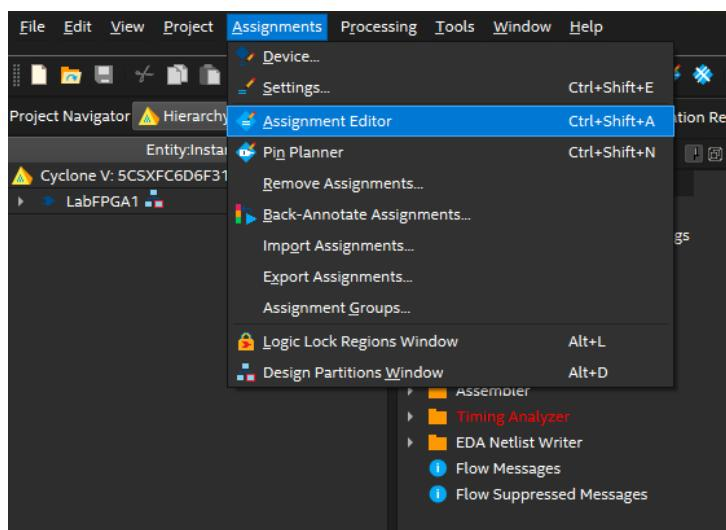

Figure 8. Assignment Editor
19. Once the design has been compiled and synthesized successfully, you must assign the physical FPGA pins for the required peripherals. To do this, go to the top menu and select: **Assignments → Assignment Editor**, as shown in Figure 8.